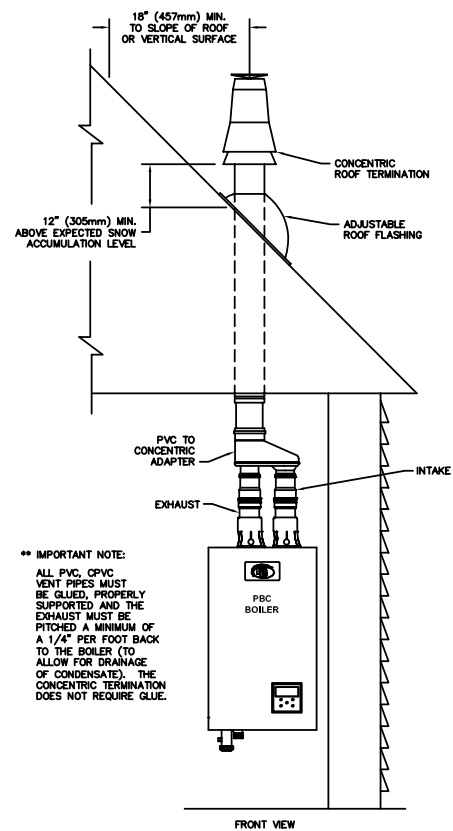

Figure 3.10: Concentric Vertical Vent Installation
- d. Figure 3.10 shows an approved vertical vent configuration using the optional concentric vent termination kit.